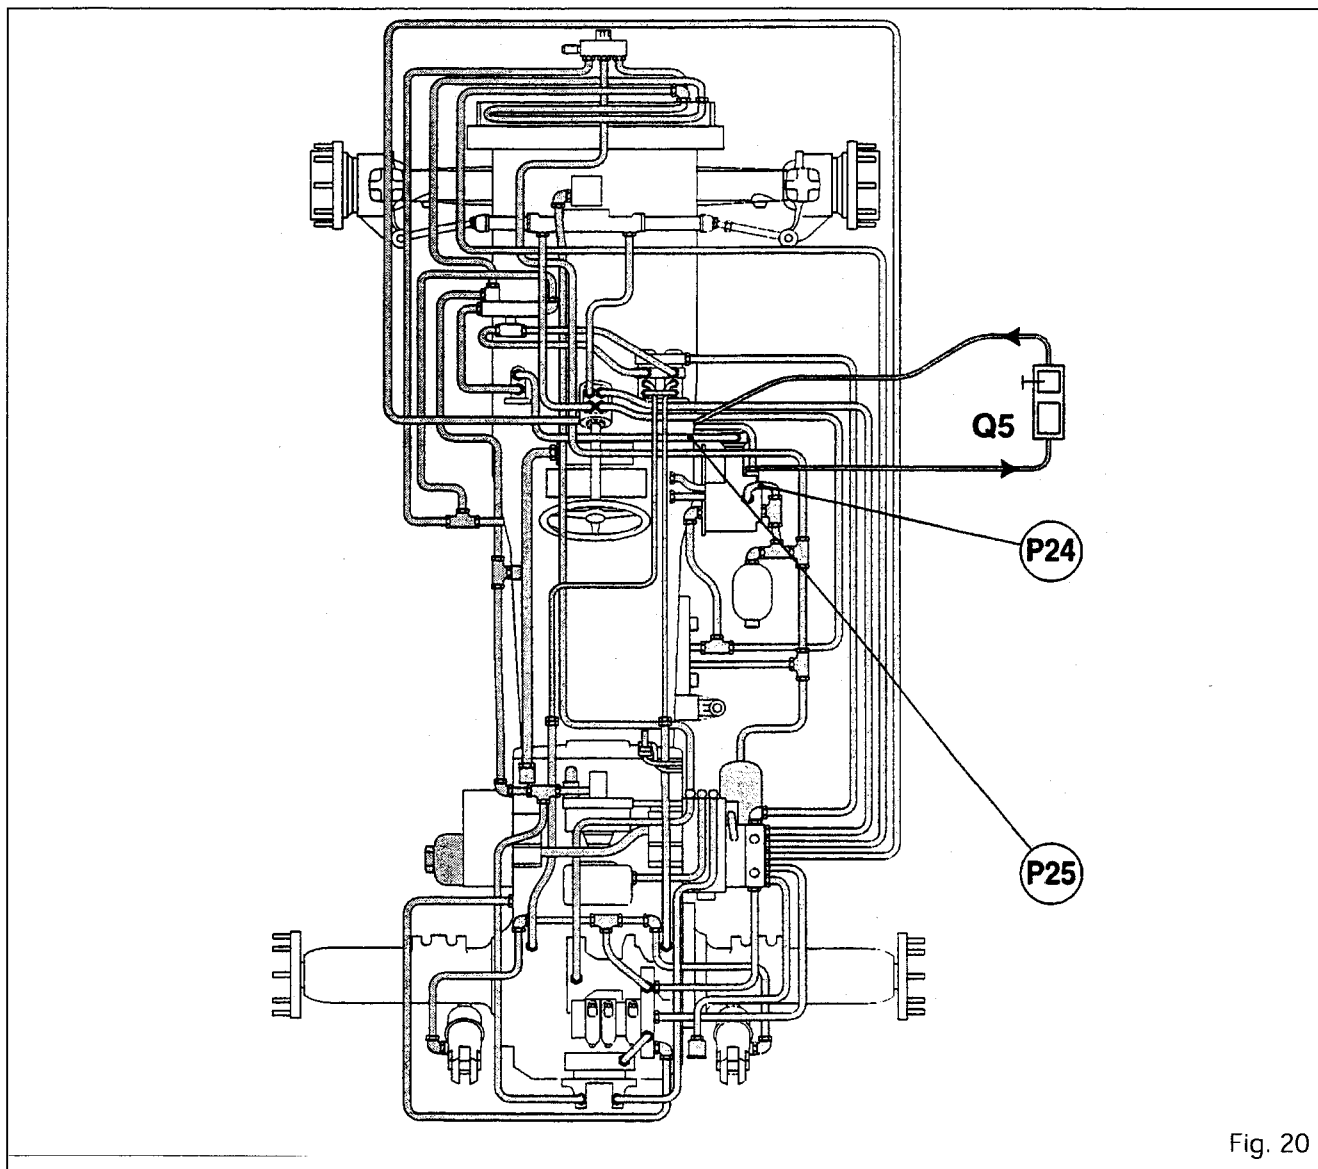

Fig. 20
- Connect a flowmeter between the valve and the clutch supply point (Fig. 20) and read **Q5**.